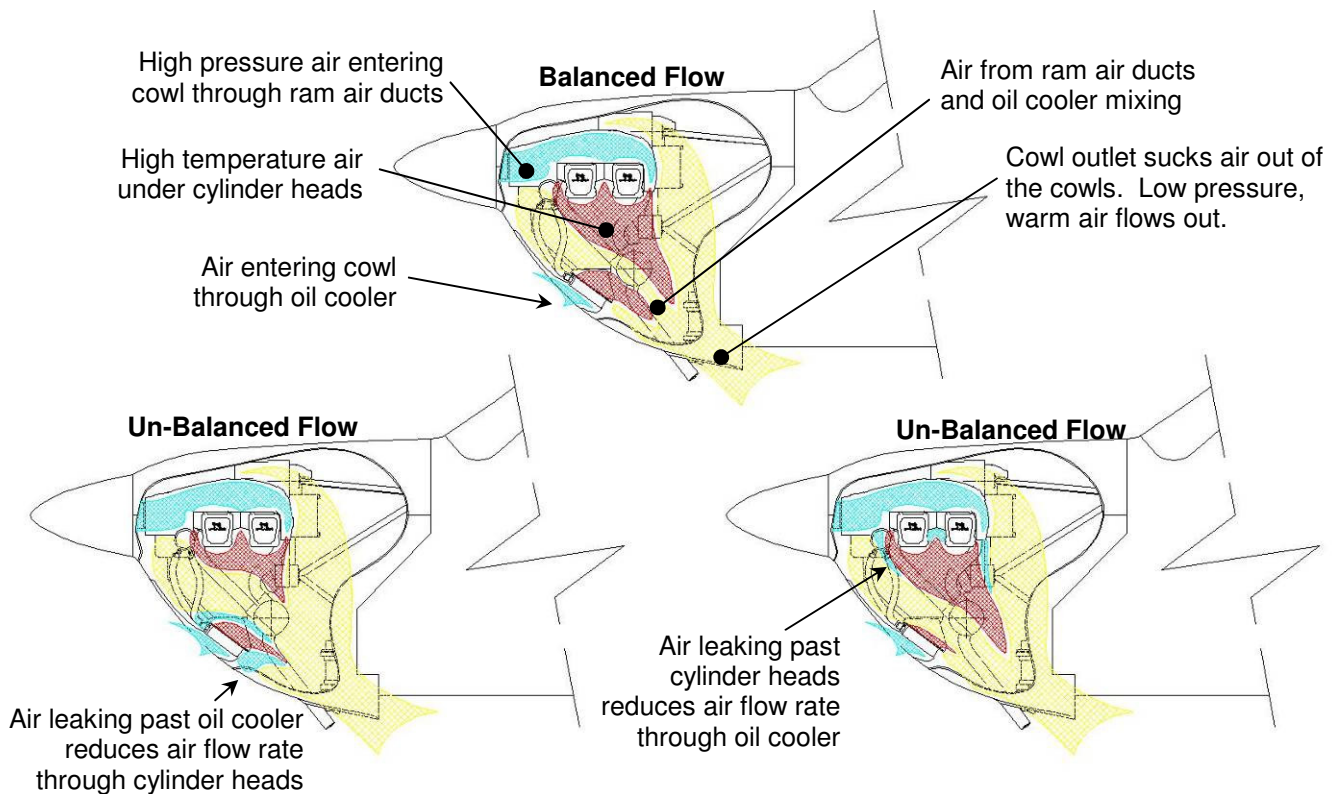

Figure 47. Cowl Airflow (Best Viewed in Colour)
- A generalised picture of the airflow and air temperature is shown in Figure 47.